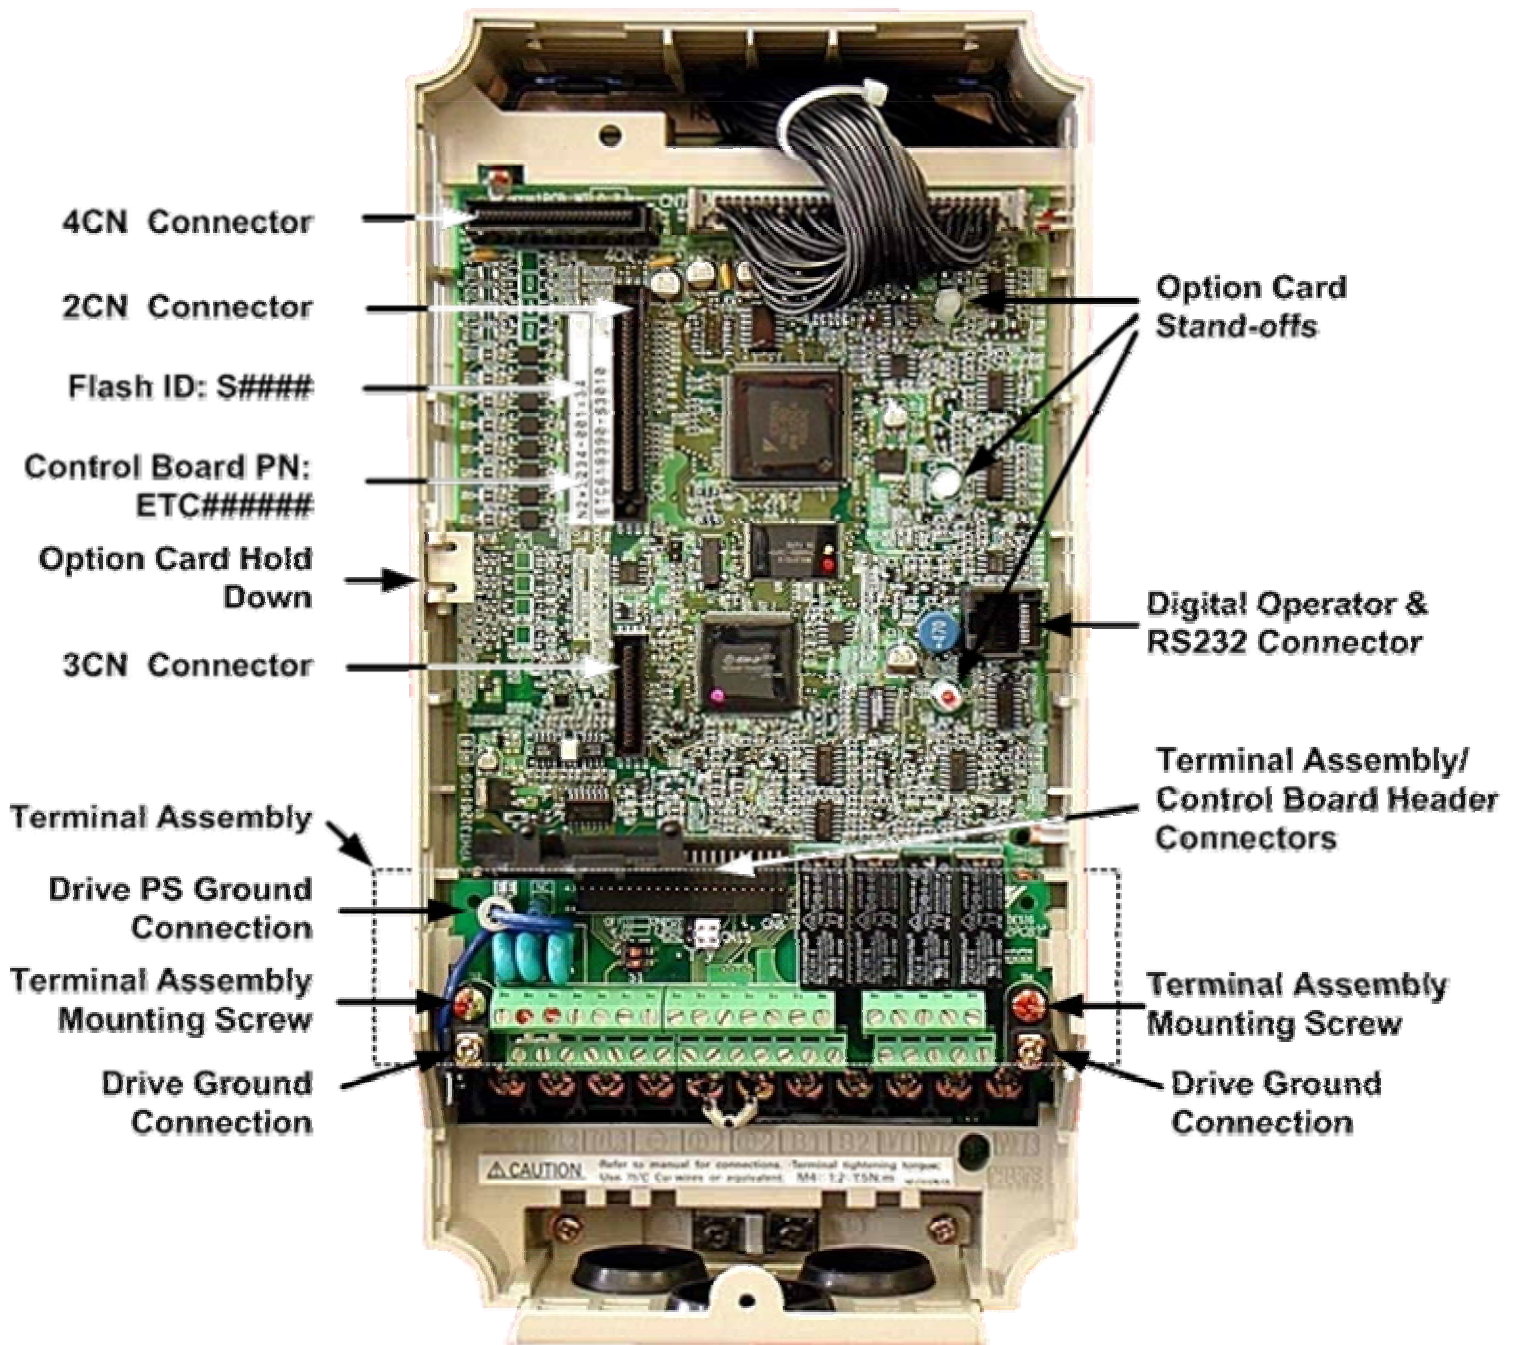
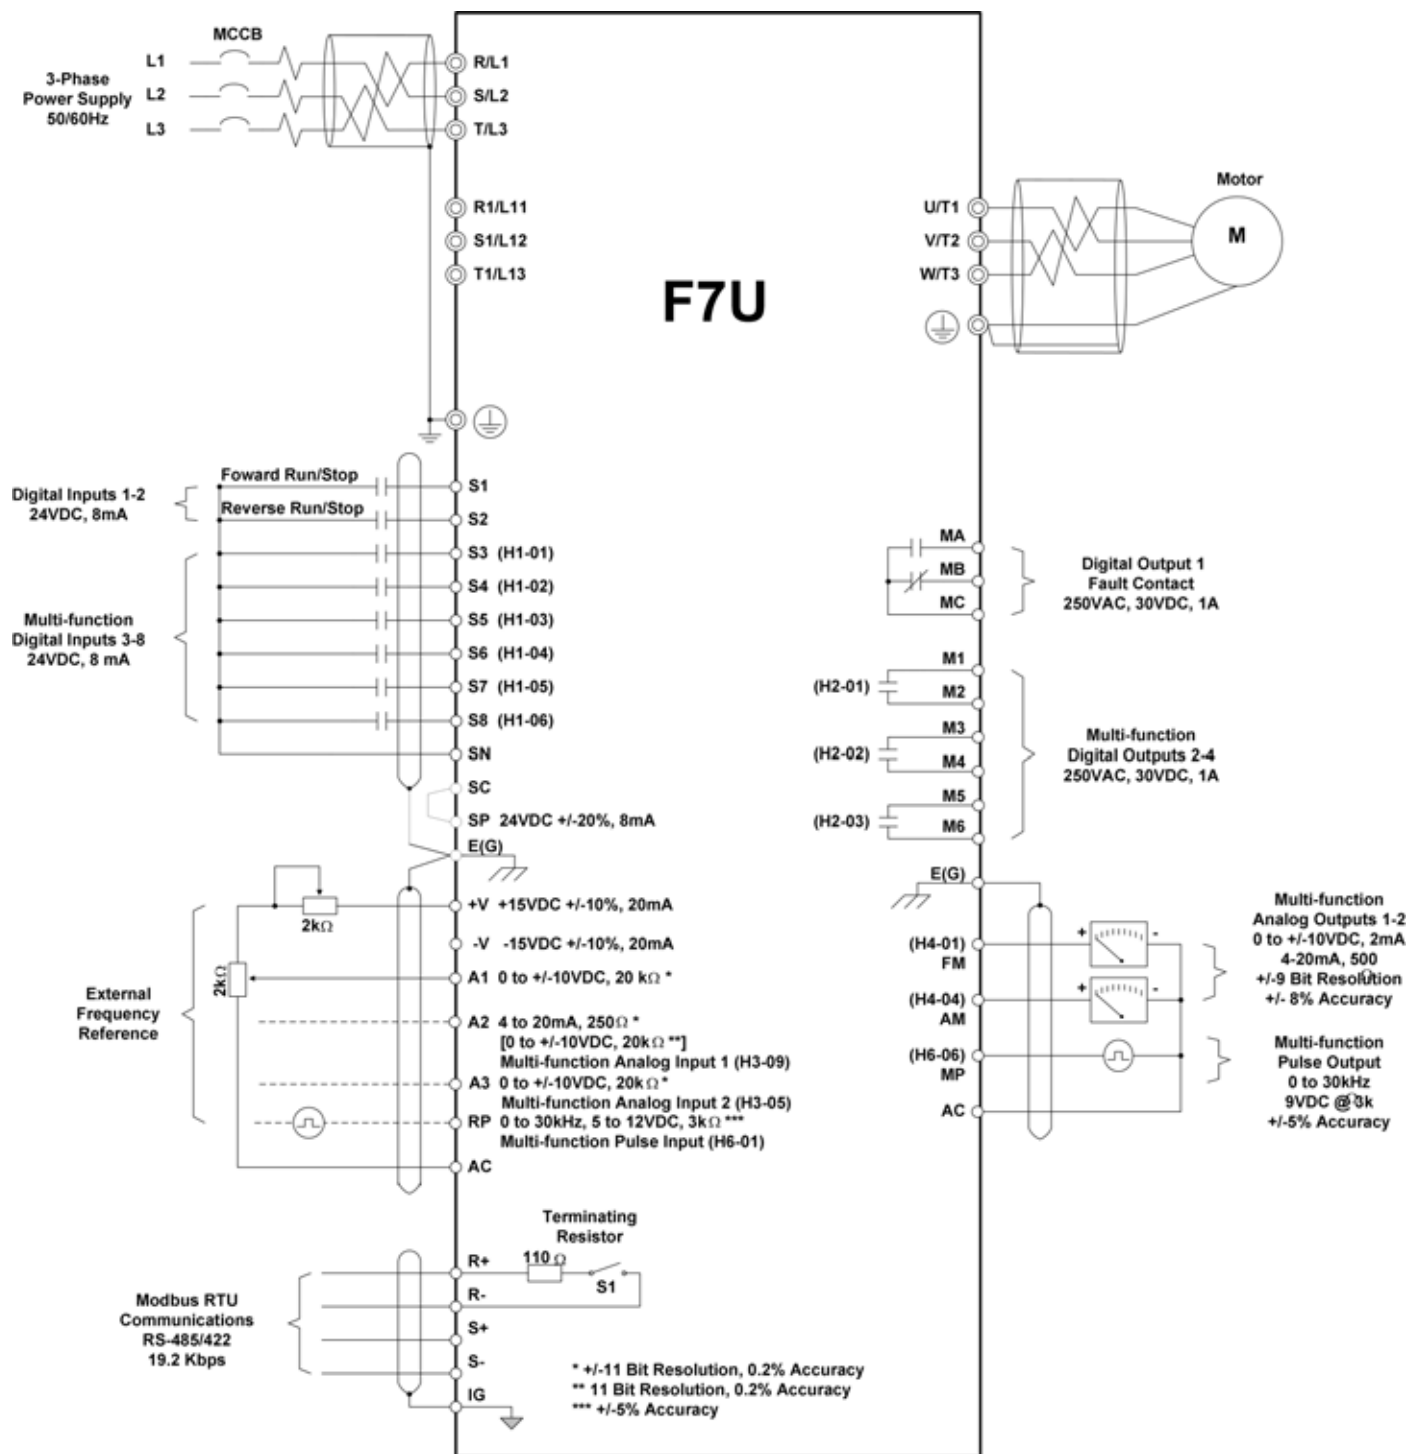

Figure 1.1 – F7U Diagram
Figure 1.2 – F7U Drive Connections
- ☐ **4.2:** Connect the RJ45 port on the front of the F7 drive to the controller serial port. Refer to *Figure 1.1 – F7U Diagram* for the location of drive connectors. Use a DB9 to RJ45 adapter with a standard Ethernet CAT-5 patch cable or use Yaskawa cables, part numbers UWR00468-1 or UWR00468-2. **Do NOT connect this cable to an Ethernet port** on the controller, as damage to the controller and/or F7 drive may result. Refer to *Figure 1.2 – RS232 Connections* for a description of the interface cable.